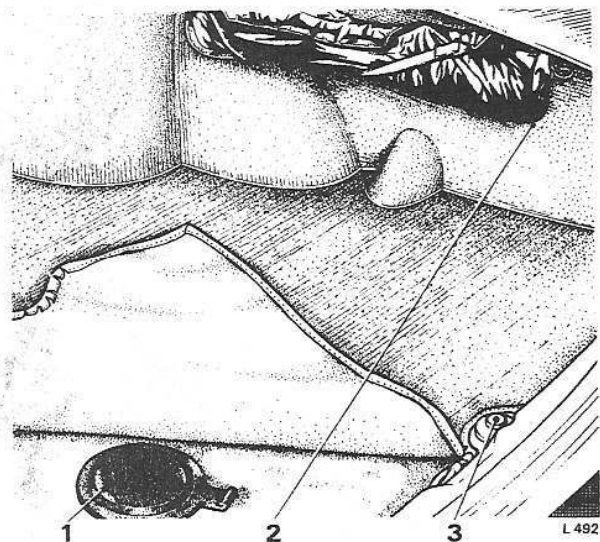

FIG. R12 LUGGAGE COMPARTMENT
1. Turn the bolt in the luggage compartment anti-clockwise, using the box spanner and tommy bar provided in the tool kit. This operation lowers the carrier and facilitates removal of the spare wheel (see Fig. R12).
On cars fitted with a spare wheel retainer it is necessary to release the retainer before lowering the spare wheel platform. To release the retainer first remove the rubber plug situated in the luggage compartment floor (see Fig. R12). Lift the cable passing through the small bracket then visible.
Spare tyre inflation (see Fig. R12)